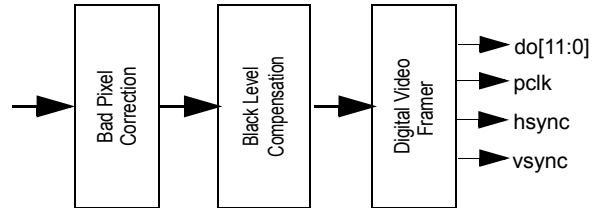

Figure 10. Digital Pixel Processing.
- compensate black level, before being framed and presented on the digital output port. (see Figure 10).